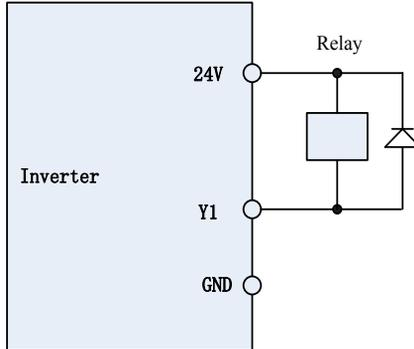

Fig. 6-12
- Wiring diagram of digital output terminal is shown as Fig. 6-12: